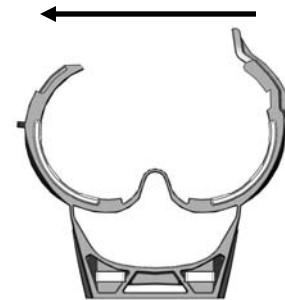
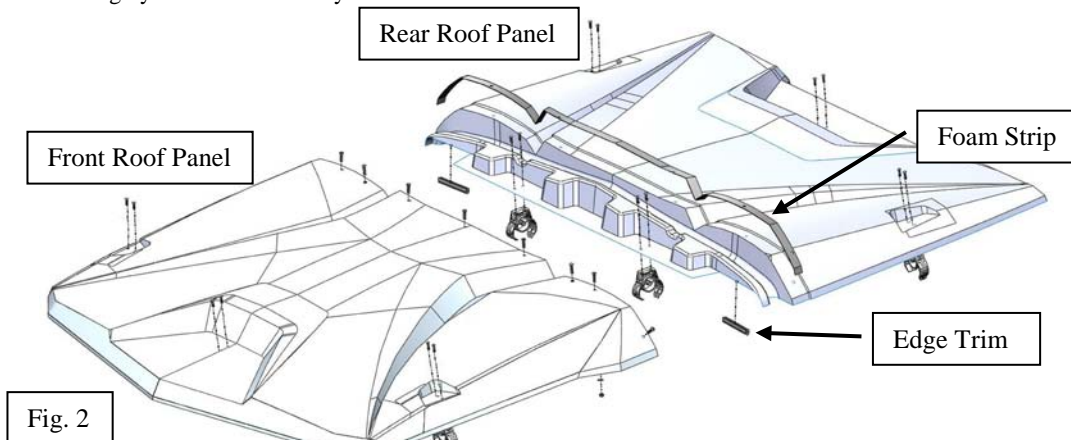

Fig. 1
Fig. 2
1. Refer to Fig. 2. Align six snap clamps with the mount holes on the inside perimeter of the crew roof. The snap clamps should be aligned so the hook portion is facing the inside of the vehicle, as shown in Fig. 1. Loosely fasten using (12) screws.
2. Align two snap clamps with the front mount holes on the rear roof panel as shown. The snap clamps should be aligned so the hook portion is facing the inside of the vehicle, as shown in Fig. 1. Loosely fasten using (4) screws.
4. Apply both edge trim pieces to the bottom front edge of the rear roof panel as shown in Fig. 2.
5. Insert (9) screws through the holes in the front roof panel into the rear roof panel. Loosely fasten using (9) fender washers and (9) nylock nuts.
6. Align the assembled crew roof with the top of the RGR frame. Press the (8) snap clamps onto the frame bars. Squeeze the snap clamps once they are installed on the frame to ensure they have been snapped in place.